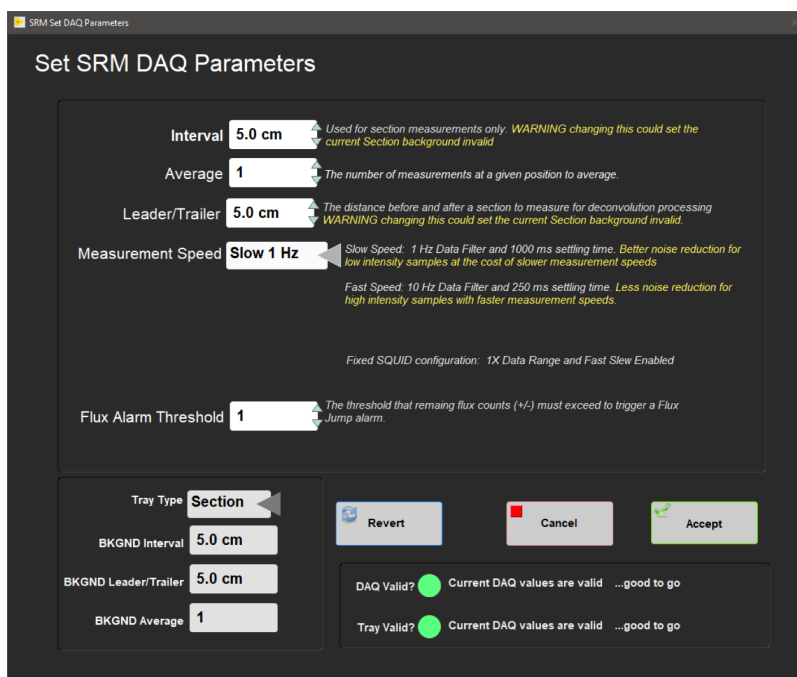

Figure 3. Measurement Editor Window.
1. Select **DAQ>Measurement Editor** from the drop-down menu. The Measurement Editor window will open (Figure 3).